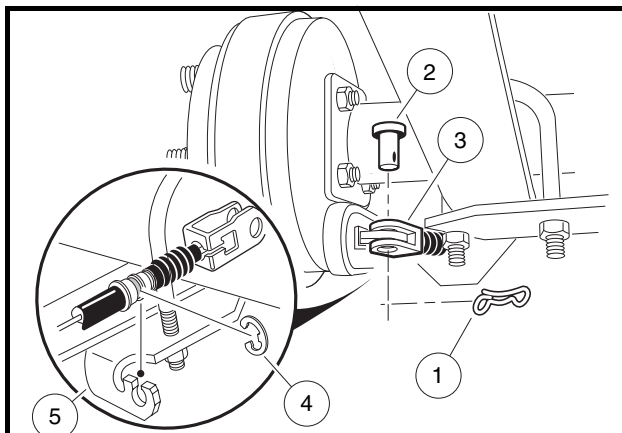

Figure 6-19 Disconnect Cables at Rear Brakes
6. Remove bow-tie pin (1) and the clevis pin (2) from the brake lever on each wheel and pull the clevis (3) away from the lever. (**Figure 6-19, Page 6-10**).
7. Remove E-clip (4) from cable at the cable support bracket (5). Remove cable from bracket.
2. At the rear wheel brake, connect the cable to the brake actuator arm using new clevis pin (2) and new bow-tie pin (1) (**Figure 6-19, Page 6-10**).
3. Place the cable in the cable support bracket (5) and secure with new E-clip (3).